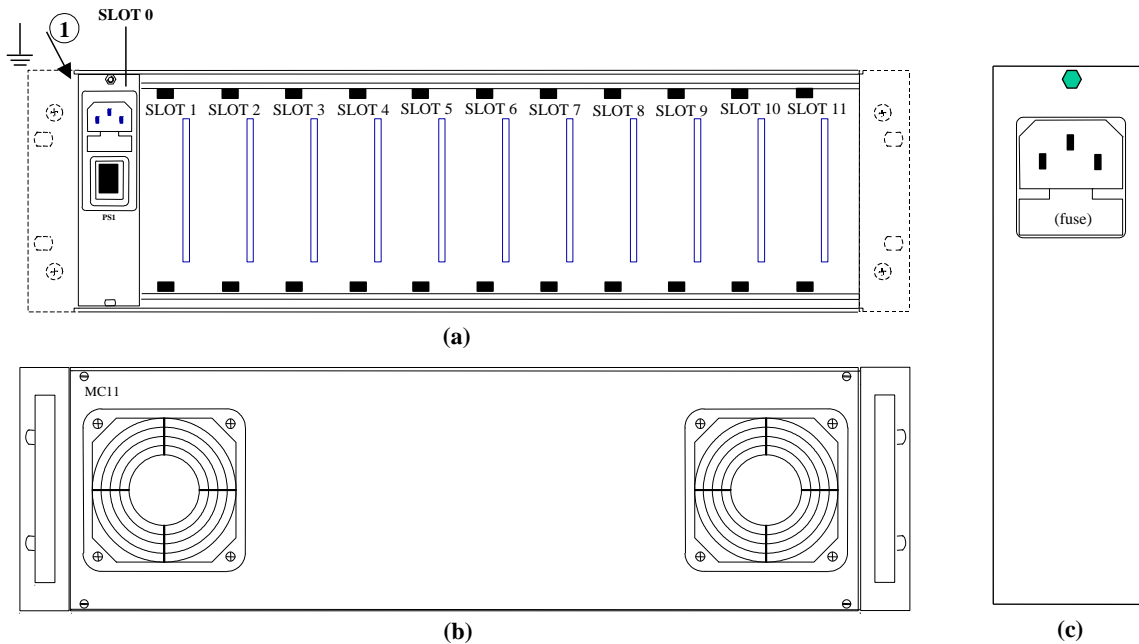

Figure 1a, b, c. Module mounting (a) and fan sides (b), and slot 0 panel (c) of the MC 11 AC power supply cabinet
The MC 11 AC 19" power supply cabinet houses up to eleven TKH Security (7TE) plug-in modules, supplying these with the correct DC voltages (see figure 1a). The leftmost, twelfth slot (Slot 0, see figure 1a,c) holds a module with the mains connector, filter, fuse and switch.
The connectors and indications shown in figure 1a and 1c are listed in table 1.
3. The chassis should be connected to safety ground using the connection on the side wall of the cabinet (1 in figure 1a).